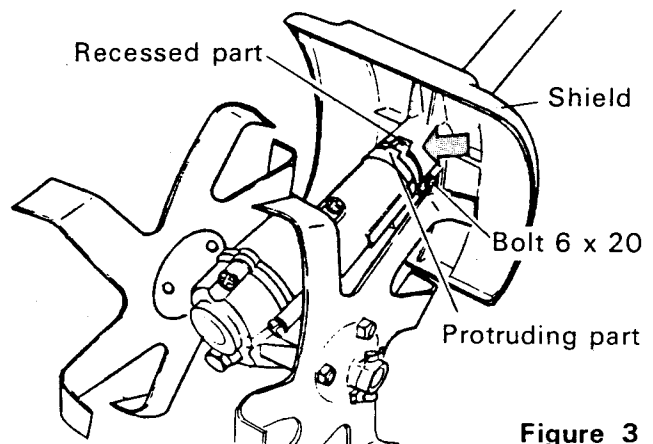

Figure 3
4. Joint the recessed part of the shield to the protruding part of gear housing as shown in figure 3. Then fasten bolt 6 x 20 to secure shield to drive shaft housing.